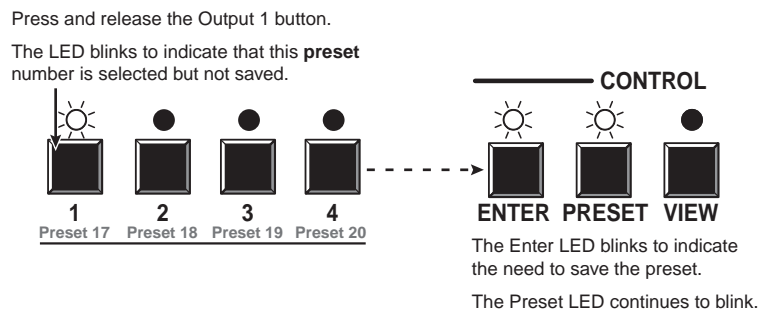

Figure 3-35 — Select the preset
3. Press and release the Output 1 button (figure 3-35).